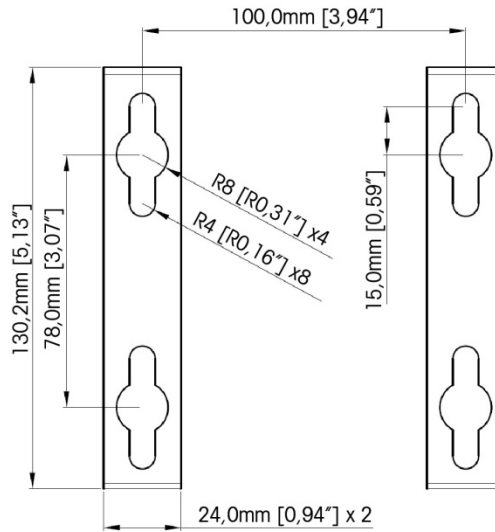
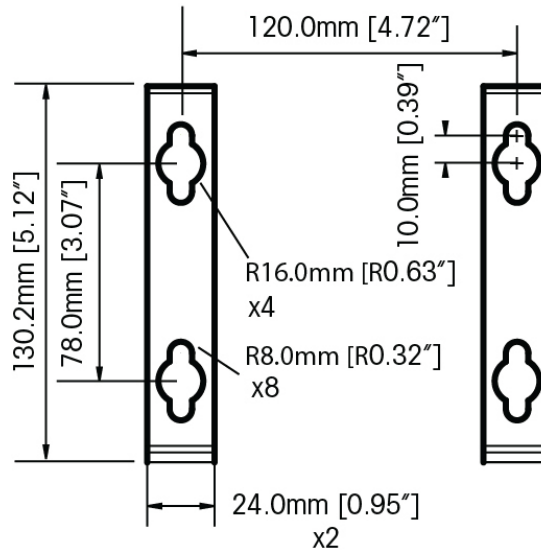

Figure 2-16: VESA 100 x 100mm Wall Bracket Mounting Hole Pattern (In IND570 terminals manufactured after April, 2016)
Figure 2-17: Original Wall Bracket Mounting Hole Pattern (In IND570 terminals manufactured up to April, 2016)
4. Mark the position of the mounting holes on the vertical surface per the dimensions shown in Figure 2-16 and in Figure 2-17 or by holding the terminal up to the surface and marking through the bracket holes.